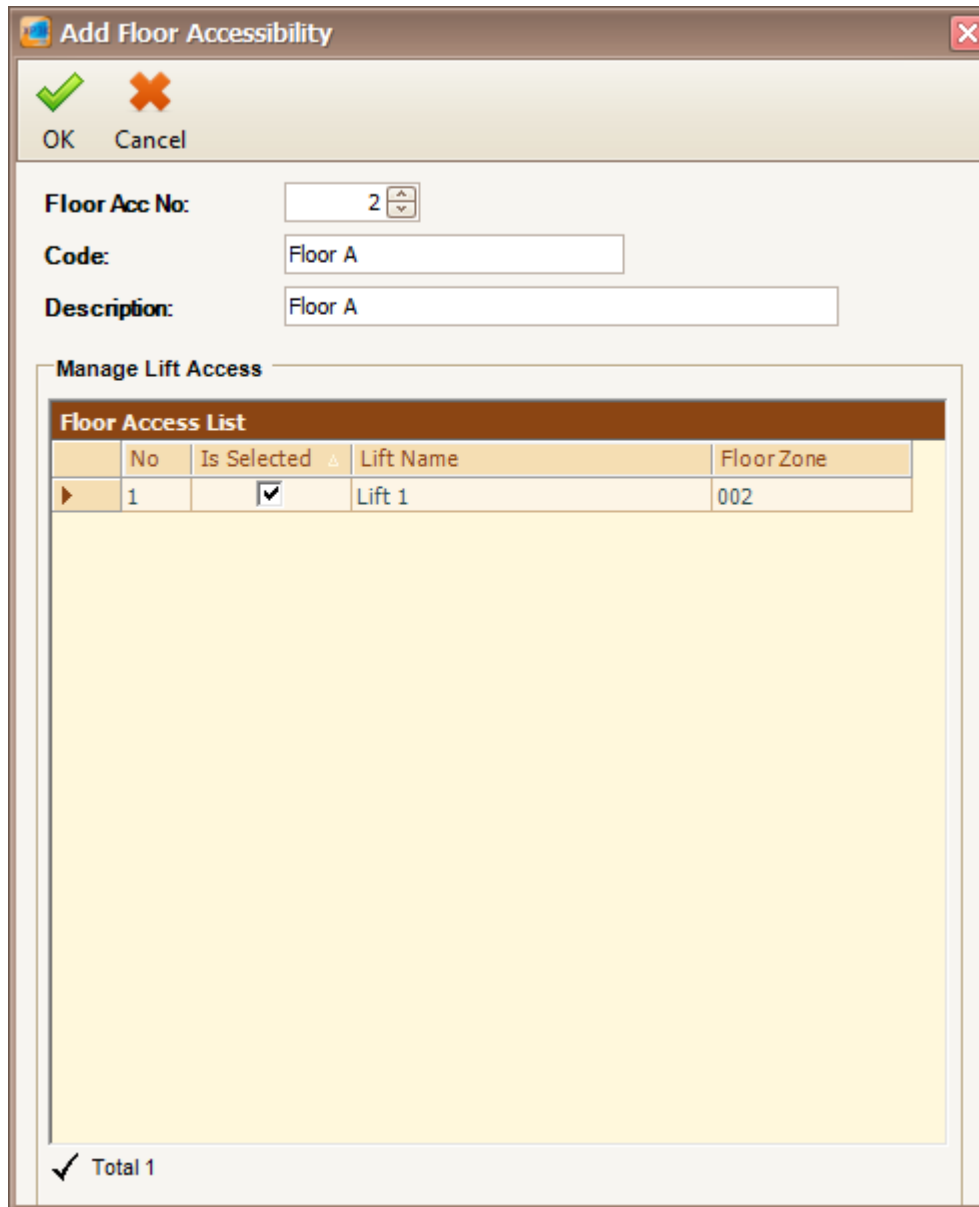

Figure 191 - Add Floor Accessibility
3. Click Add button to add new floor accessibility (Refer **Figure 191**).